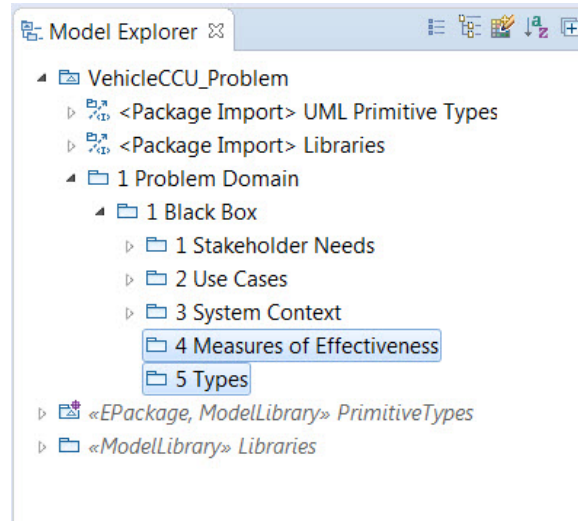

Figure 71: *Measures of Effectiveness* package and *Types* package.
1. Create two new packages under the *1 Black Box* package; one named *4 Measures of Effectiveness* and another named *5 Types* (figure 71).